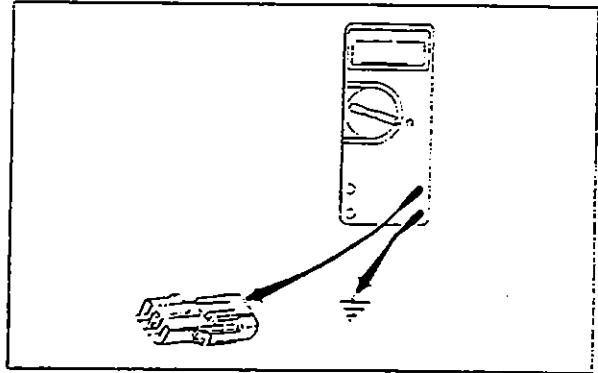

Fig. 1.1.42
**Correction:** Measure the resistance of each tach sender wire to ground (Fig. 1.1.42). The one wire with a reading of 0 ohms is at ground potential. This wire should be cut and the two ends insulated. If the problem continues, add a separate sending unit for the low speed signal.